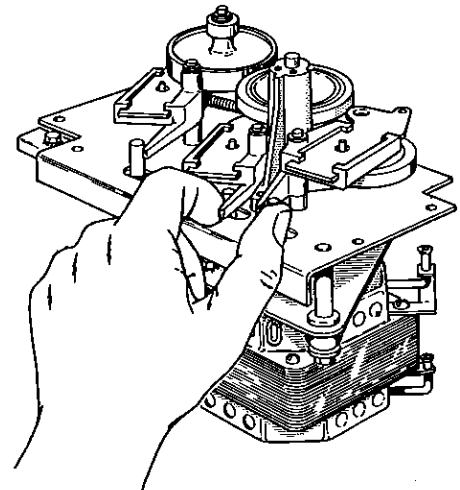

Figure 2. Mechanism Drive Disengagement.
gether the drive pivot levers as shown in *Figure 2*, or the motor and drive assembly may be temporarily removed. All manual rotation of the upper spindle should be in the counter-clockwise direction.
- B. With the drive disengaged as shown in Figure 2, turn the pickup operating gear clockwise until approximately 4 teeth are engaged with the drive gear.